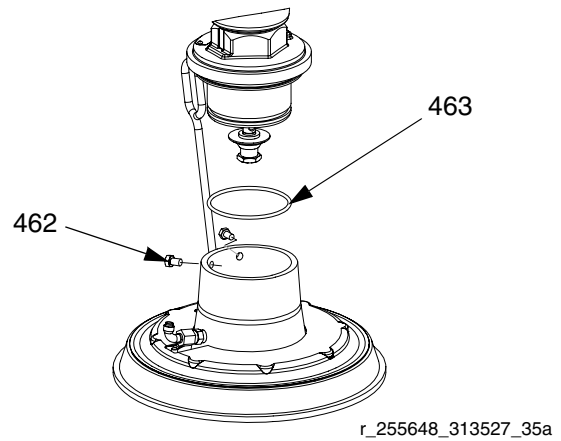

**FIG. 17: 55 and 30 Gallon Mounting Kit**
1. Place o-ring (428) from mounting kit 255392 on the platen. If attached to plate, place displacement pump onto platen. See FIG. 17.
2. Secure pump's intake flange to plate with screws (426), washers (425), and clamps (427) included in mounting kit 255392.